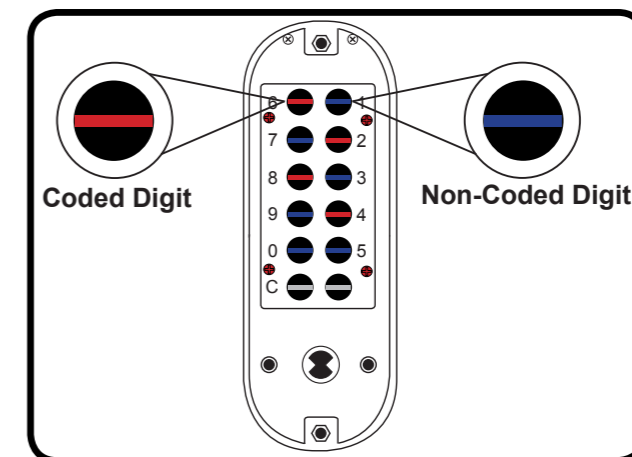

Fig.16
4. As per example **Fig.16** below, you will see that the red tumblers on digits 2, 4, 6 & 8. All the other holes will show a blue lines in the centre of the portholes.